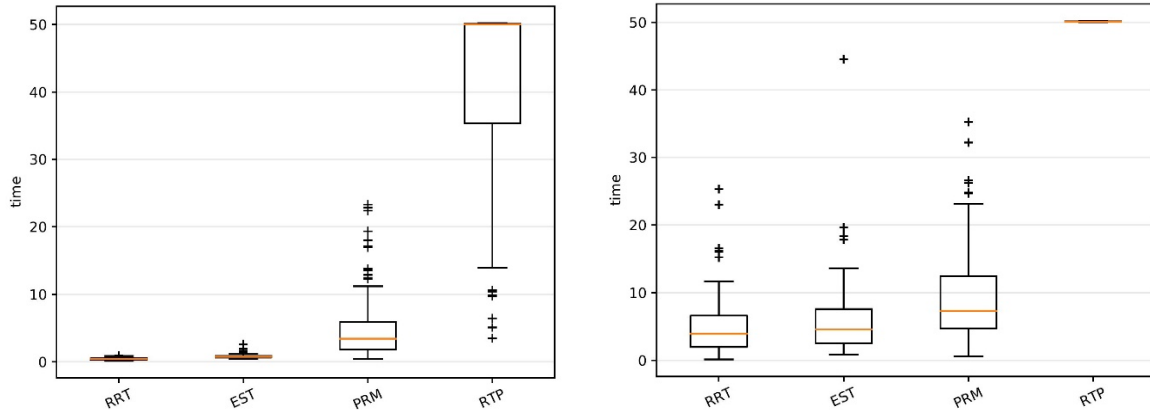

Figure 6. Computation time of four planners in 3D Cubicles and Twistycool scenarios
- Time: RTP spends much more time than the other three planners. Figure 6 shows the computation time of each planner in 3D Cubicles and Twistycool scenarios.